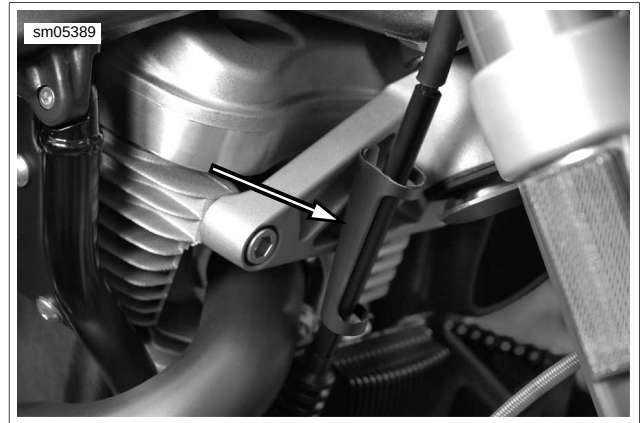

Figure 2-111. Clutch Cable Bracket
2. See Figure 2-111. Remove clutch cable bracket.
4. Tighten front isolator bolt (6) to 49-51 ft-lbs (66-69 Nm).
5. See Figure 2-111. Install clutch cable bracket. Tighten fastener to 84-92 in-lbs (9.4-10.3 Nm).